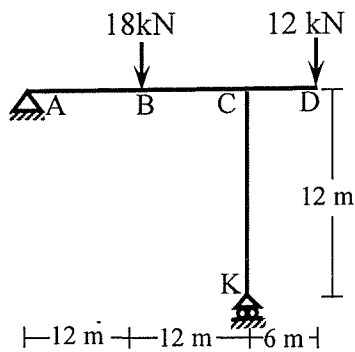

Fig.1
1. Calculate the horizontal deflection at **K** of the frame shown in **Fig.1** by the Unit Load Method [EI=Constant]. [12]